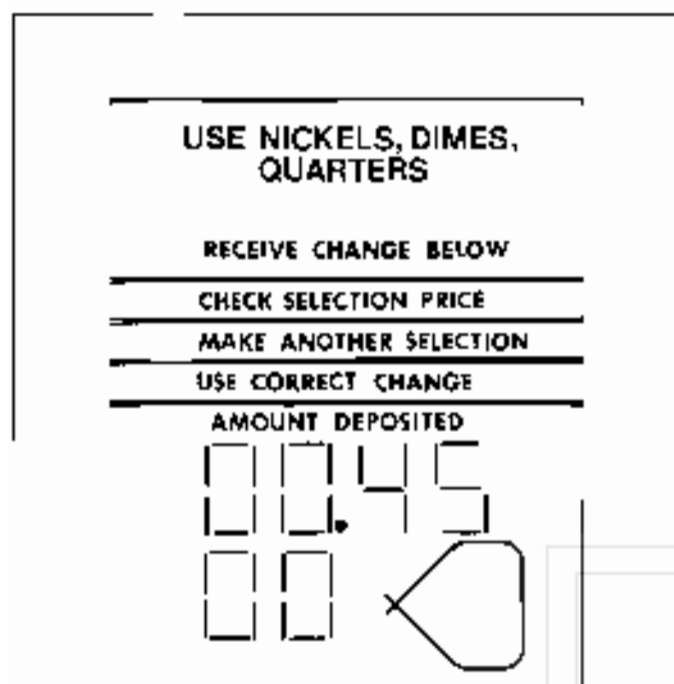

Figure 15. SHOWING A SELECTION PROGRAMMED FOR 45¢
- B. Press the letter and then the number for the first selection to be checked. The display will show the price and product code that selection is programmed for (Figure 15). Check the displayed price against the price tag on the shelf for that selection.